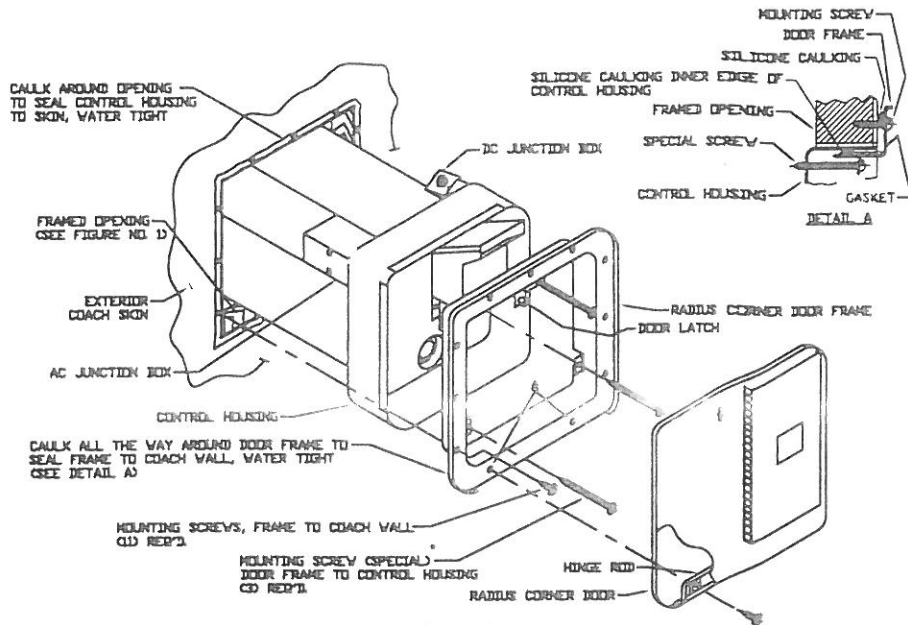

Figure 2
(See Figure 2 for models SW4DEA/SW6DEA)
F. Fit the door frame into control housing (over the caulking already applied) and pull frame tight to control housing using the three (3) No. 8-15 x 3 1/2" screws provided.
G. Push water heater into framed opening until back side of door frame (now attached to control housing) is against the side of the coach and firmly attach with screws around the perimeter of the frame. NOTE: The two (2) holes in bottom of frame identified as 'A' in Figure 2 are also used to mount door hinge to the frame.
- Refer to Figure 2 for location of D.C. junction box.
- Refer to Figure 2 for location of A.C. Junction box.